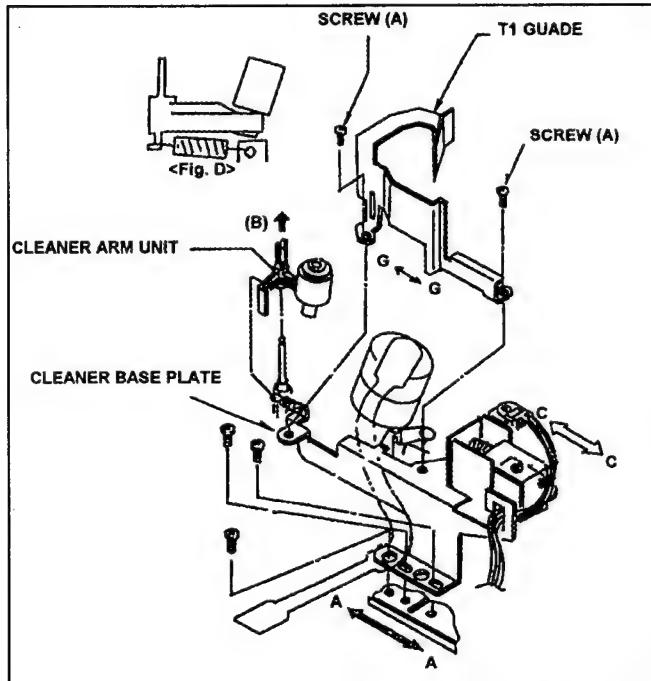

Fig. 4-1-1
1. Unscrew the 2 screws (A) and remove the T1 Guide.
2. Hang off the tip portion (B) of cleaning Arm Unit and hang off the spring from Cleaner Arm Unit, then remove the Cleaning Arm Unit as shown in Figure 4-1-1.